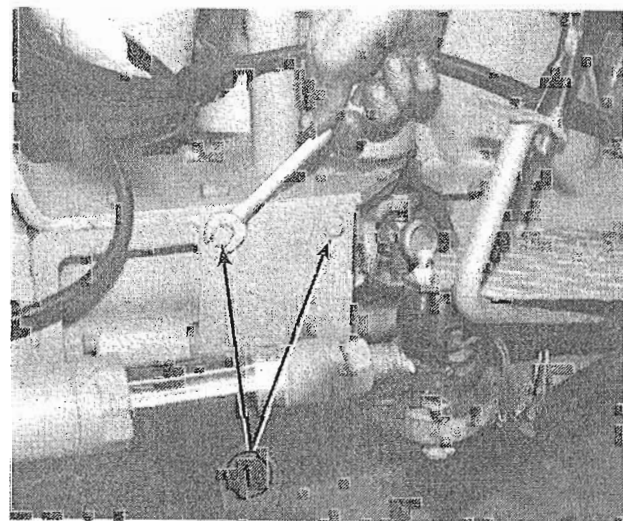

FIG. 7
(8) The drive shaft shield by removing (4) 8 x 12mm. bolts. (1, Fig. 7)